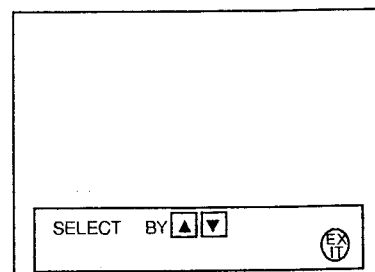

Fig. 2
- Select any of PICTURE, SOUND or OTHERS. The screen shown in Fig.2 will be displayed if the LEFT / RIGHT KEY is pressed.